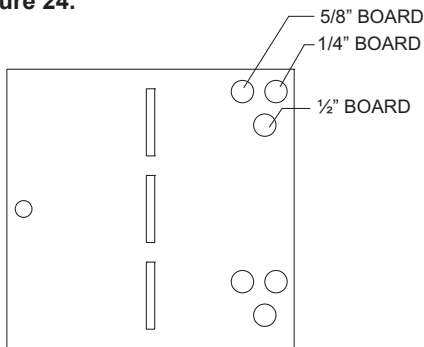
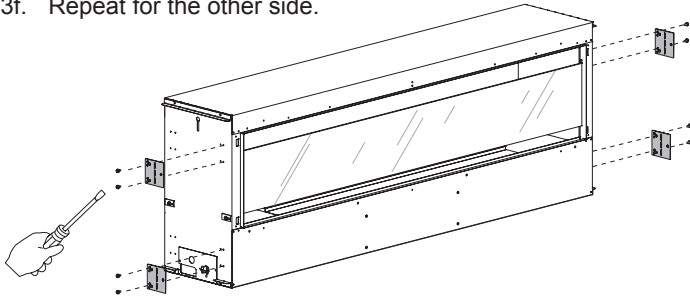

Figure 20
Figure 24 - Option 1
2. The holes in the nailing flanges allow for different thickness boards and depths of wall boards. See **Figure 20**. Install nailing flanges with two 10 x 12 screws (each) in pair of holes closer to the face of the fireplace. Leave the nailing flanges flat until after you lift the fireplace into the framing. See **Figure 24**.